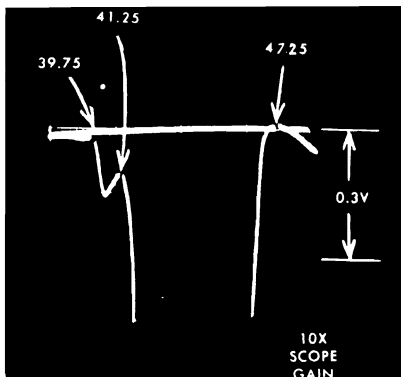

Fig. 6 Expanded View of Traps
6. Refer to Fig. 6 and 7 and adjust the 39.75 Mc 41.25 and the two 47.25 Mc traps for minimum marker amplitude. (The 16F25 chassis has one 47.25 Mc trap). It can be seen that high oscilloscope gain must be used to "run" the response off the screen in order to view a "blow up" of the traps.